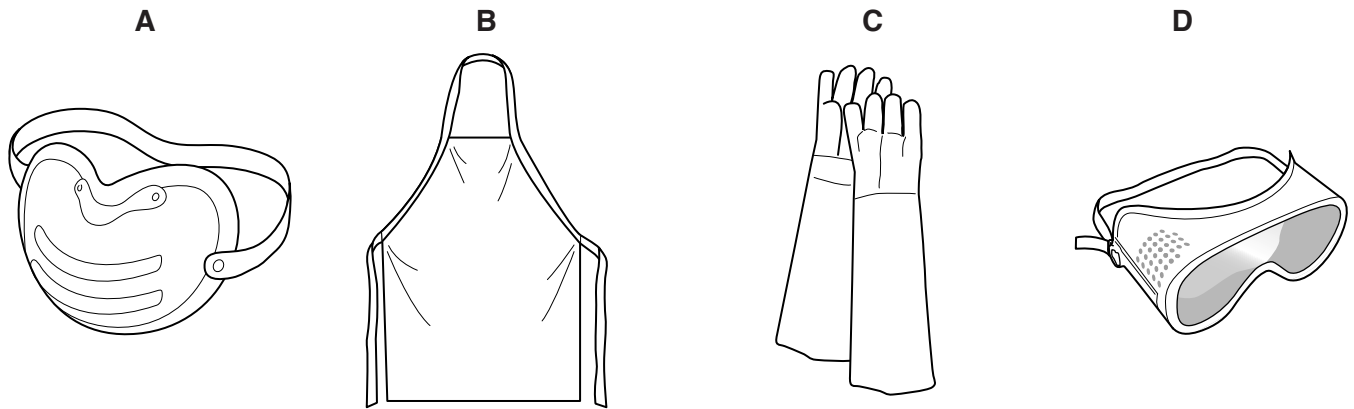

Fig. 8
13 Fig. 8 shows items of personal protection equipment that would be used in workshops.
- (a)** Name and describe a specific use for each item of personal protection equipment shown in Fig. 8. [8]